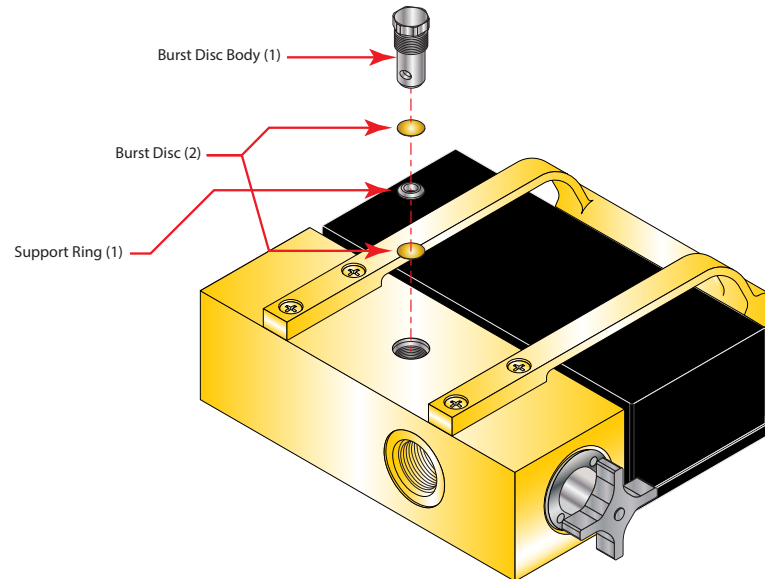

Figure 10: PFM6BD burst discs
1. Position the tester block to expose the internal burst disc body as shown in *Figure 10*.